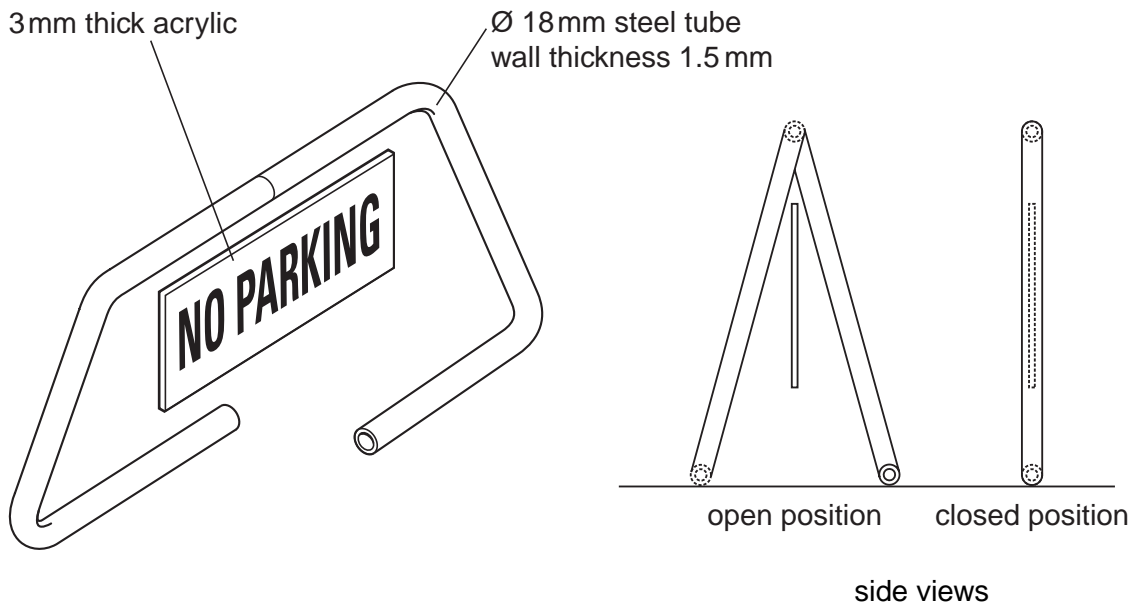

Fig. 6
5 Fig. 6 shows views of a folding steel frame for a 'No Parking' sign.
(a) State **two** properties of steel that make it suitable for the folding frame shown in Fig. 6
- so that they can rotate to allow opening and closing as shown in Fig. 6;